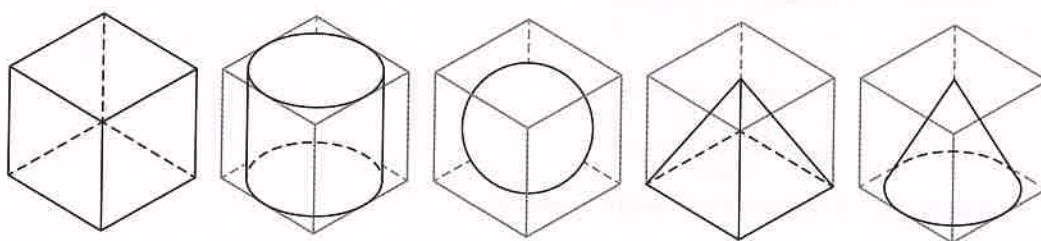

Figure 6.14 Isometric drawings of objects
Some examples of isometric drawings of objects are shown in Figure 6.14.
- 2 Using isometric grid paper, copy the isometric shapes shown in Figure 6.14.